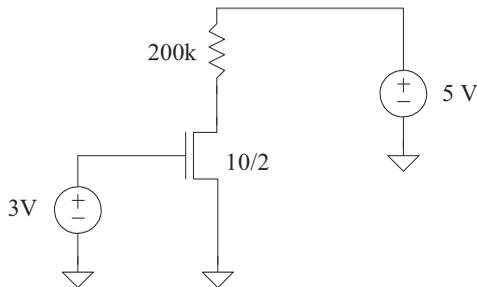
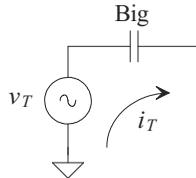

Figure 9.40 Circuit used in Problem 9.5
Figure 9.41 Using a test voltage to determine a resistance in a simulation.
- 9.6 To determine the value of a small-signal resistance in a simulation, the circuit seen in Fig. 9.41 is used. The ratio of the test voltage, v_T , to the current that flows in the source, i_T , that is, v_T/i_T , is the small signal resistance. Using this circuit determine, with SPICE, the value of the resistance looking into the drain of the circuit in Fig. 9.40. How does the 200k resistor affect i_T in the simulation?